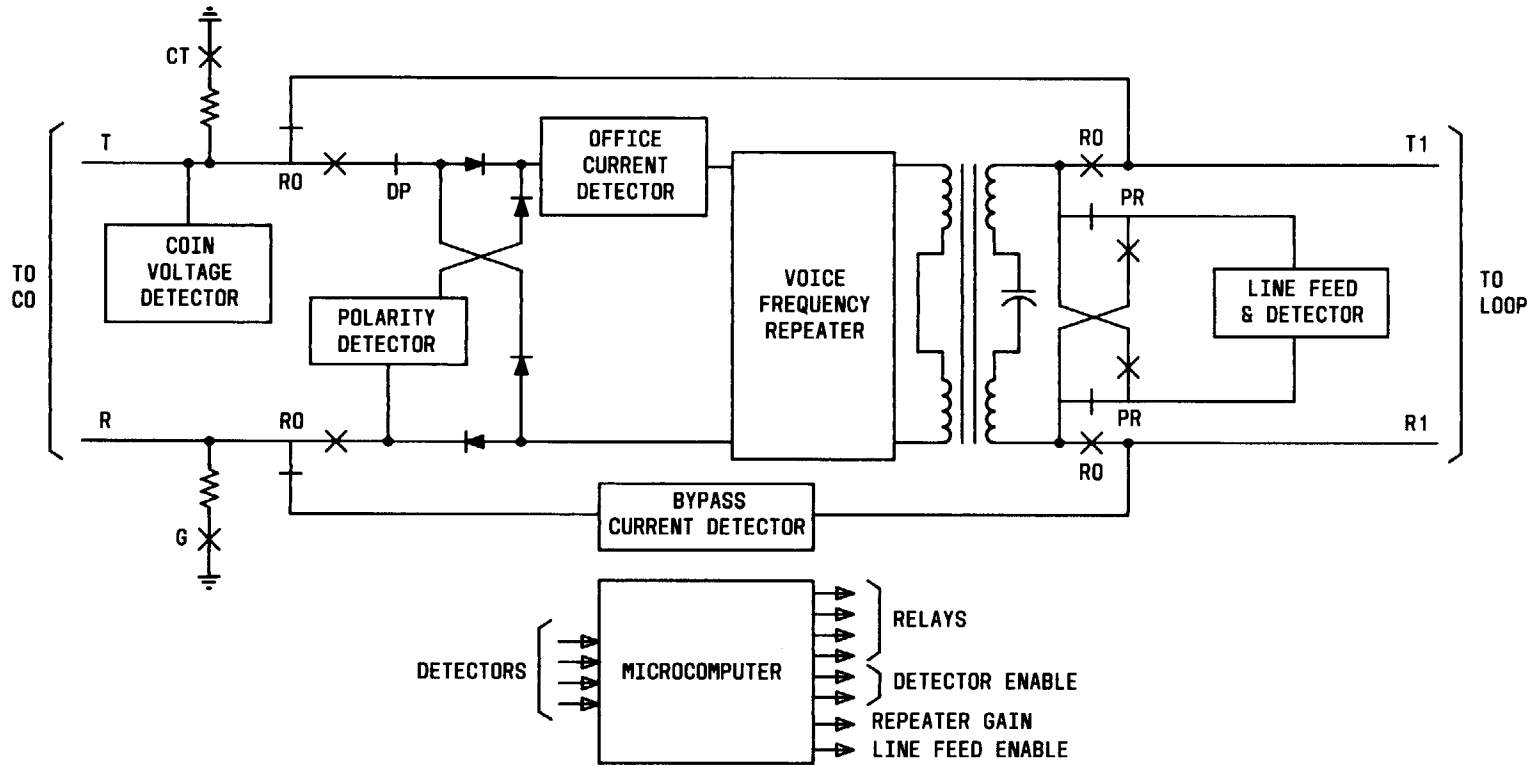

Fig. 2—8A Coin REG Block Diagram
**2.03** A block diagram of the 8A Coin REG is shown in Fig. 2. The principal parts of the 8A are as follows:
- (a) Voice frequency (VF) repeater
2.10 Voice frequency signals are passed through a repeat coil (shown in Fig. 2) which interfaces between the 8A repeater and the coin loop. The
2.11 Operation of the 8A REG involves five detectors and five main relays as shown in Fig. 2. The 8A microcomputer is programmed to
4.02 Functionally, the 8A REG has two basic states; bypass and active. In the bypass state, the circuit is a simple metallic connection of input to output. In the active state, the circuit input is connected to the output through the 8A repeater and repeat coil (see Fig. 2).